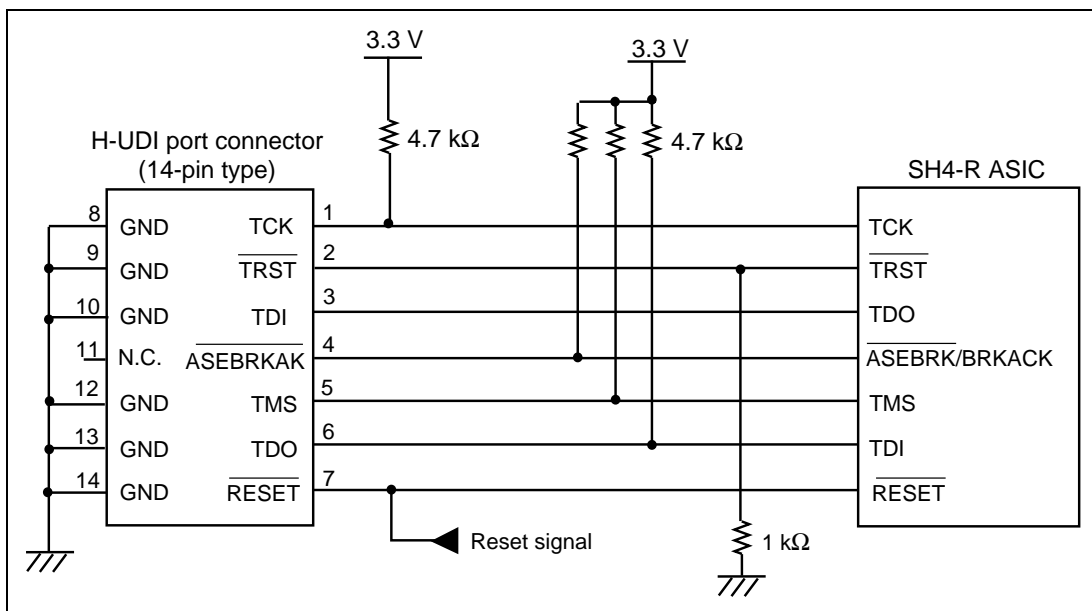

Figure 1.5 Recommended Circuit for Connection between the H-UDI Port Connector and MPU (14-Pin Type)
Figure 1.5 shows a recommended circuit for connection between the H-UDI port connector (14 pins) and the MPU.
5. The resistance values shown in figure 1.5 are recommended.